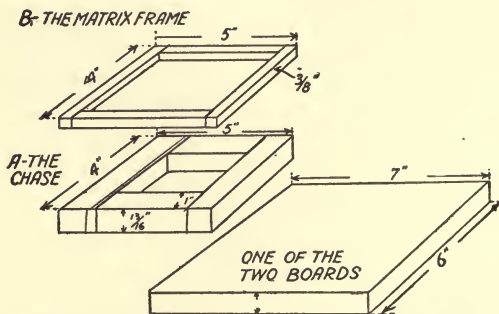

FIG. 74. THE MATRIX FRAME, CHASE AND BOARDS FOR MAKING RUBBER STAMPS
How to Make Rubber Stamps.—*The Materials Needed.*—To make rubber stamps you will need (1) one or more fonts of type; (2) a composing stick if you intend setting up more than one line; (3) a frame called a chase, 4 x 5 inches on the sides made of a strip of wood 1 inch wide and $1\frac{3}{16}$ inch high, which is the height of type from its feet to its shoulder; (4) another frame, called the *matrix frame*, made of a strip of wood 1 inch wide, $\frac{3}{8}$ inch thick and 4 x 5 inches on the sides. These two frames are shown at A and B in Fig. 74. (5) Two smooth boards 1 inch thick, 6 inches wide and 7 inches long; (6) a tooth-